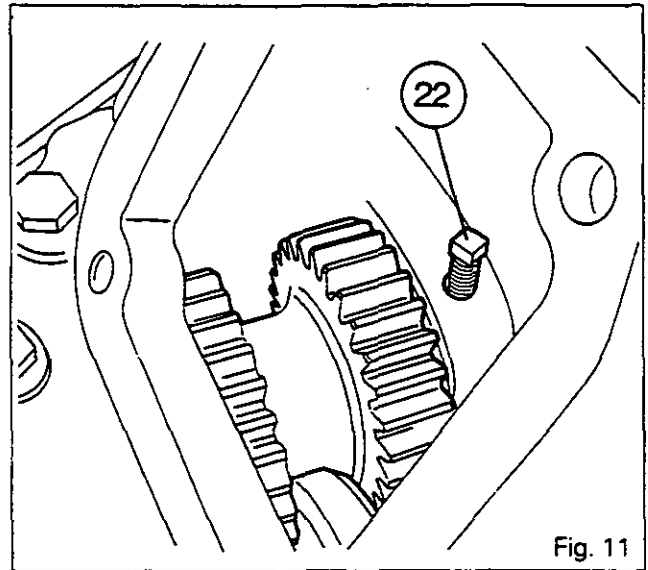

Fig. 11
66. Remove the nut (25) and the locking screw (24) of the fork (26).
67. Remove the screw (22) (Fig. 11).
68. Withdraw the shaft (23) from the compound pinion assembly (14) in order to disengage the fork (26).